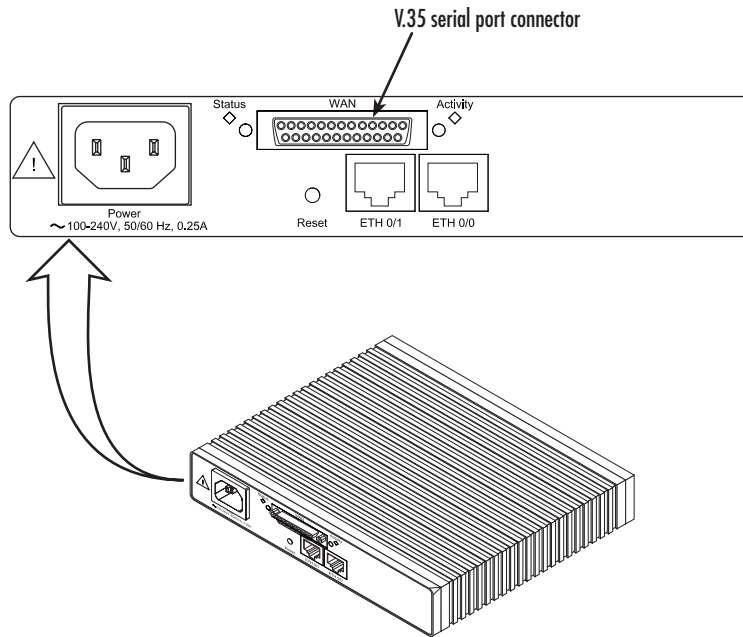

Figure 2. Rear view of the router showing location of V.35 interface connector
**Installing the V.35 interface cable.** The IPLink Model 2835 comes with a V.35 interface presented on a DB-25 female connector (see figure 2).